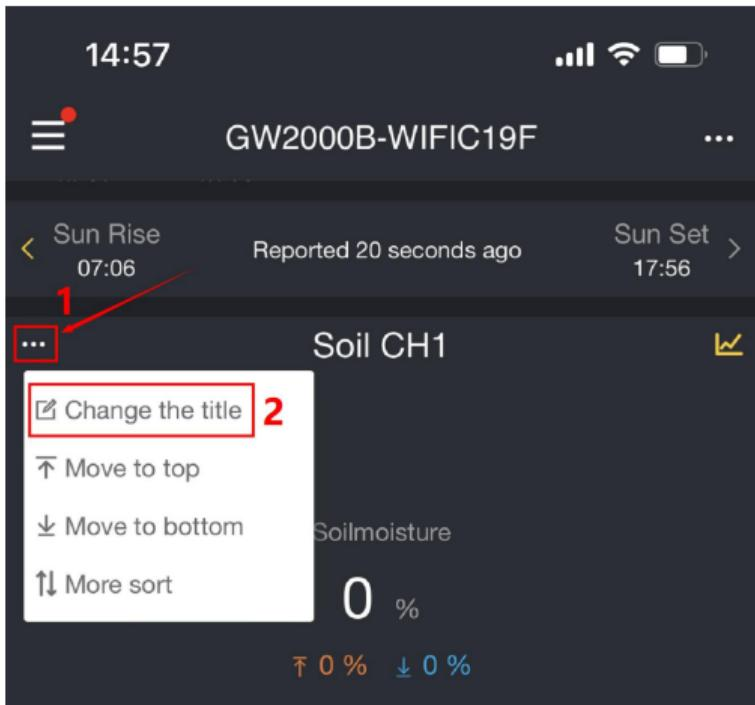
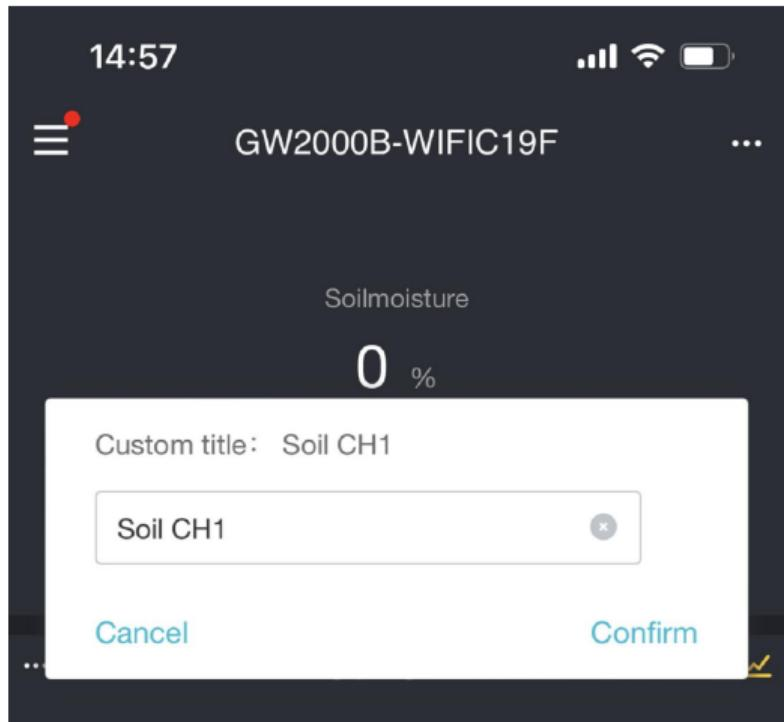
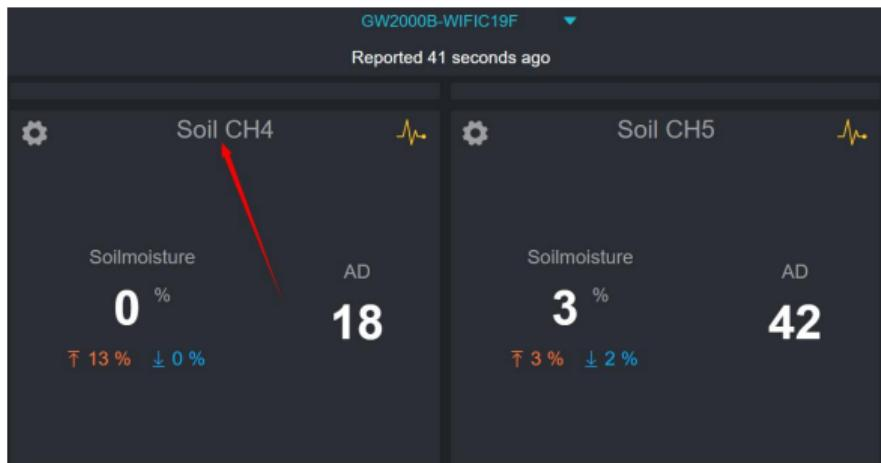
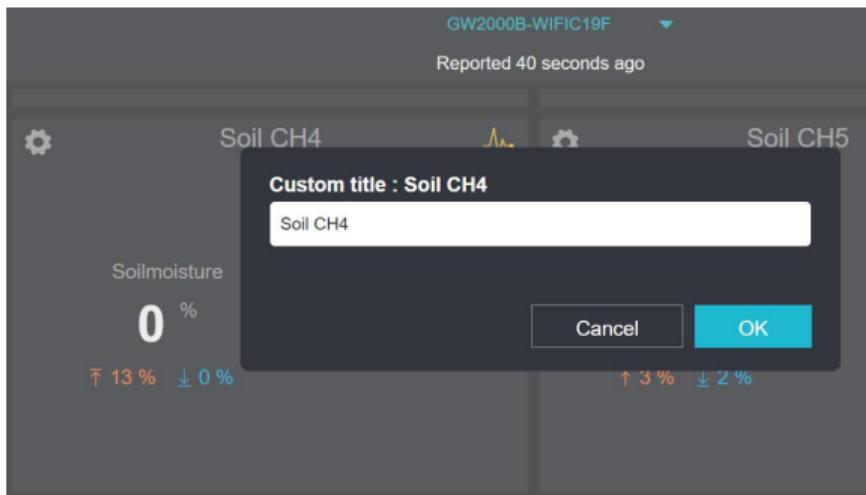

Figure 19
Figure 20
Figure 21
Figure 22
- Click '...' of the top left corner of the sensor channel and choose the 'Change the title' like the Figure 19.
- Edit the channel name on the pop-up and finally click Confirm, like the Figure 20.
- Find your sensor's channel and directly click the channel title, for example, click the 'Soil CH4' like the Figure 21.
- Edit the channel name on the pop-up and click 'OK' like the Figure 22.
- The channel's names could only be edited on the Ecowitt APP or website (ecowitt.net). For example, when you edit the channels' names on Ecowitt app, please refer the Figure 18~ Figure 19; when you edit the channels' names on ecowitt.net, please refer the Figure 21~ Figure 22.
you edit the channels' names on Ecowitt app, please refer the Figure 19~ Figure 20; when you edit the channels' names on ecowitt.net, please refer the Figure 21~ Figure 22.